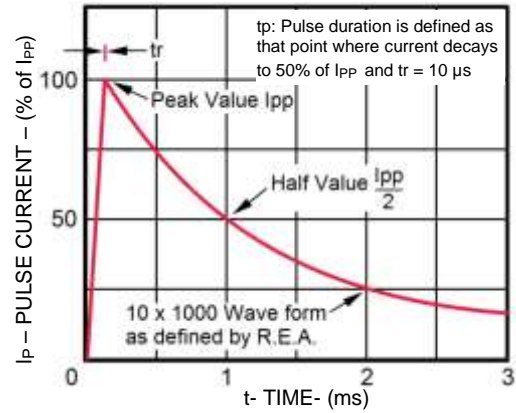

FIGURE 2
* See Figure 2 for I_{PP} waveform of 10/1000 μ s test pulse.